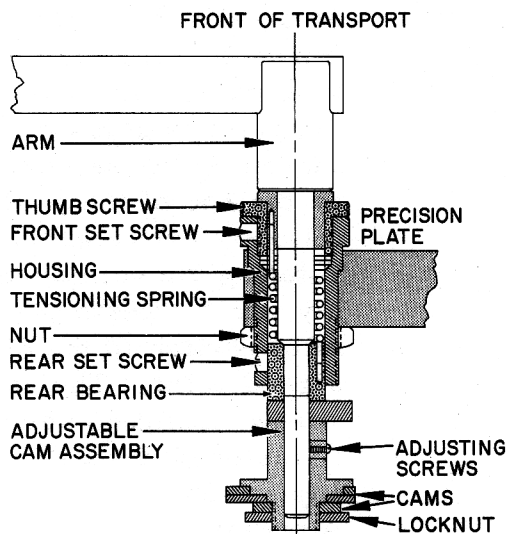

Figure 7-12
Step 2: If the force required to lift the arm from the pack is incorrect, loosen the setscrew through the pivot housing at the rear of the transport (Figure 7-12) and rotate the rear bearing to increase or decrease spring tension as required.
Step 3: Operating the transport in either the Forward Drive or Reverse Drive mode. If either shoe touches the flange of a reel, loosen the set screw at the side of the support post (Figure 7-12), using the small screwdriver. Use the Allen wrench to loosen the tape